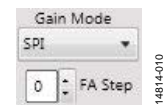
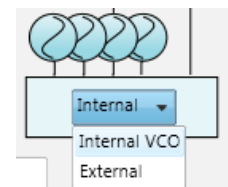

Figure 10. Gain Mode Dropdown Menu and FA Step Spin Box
Figure 11. Configuration Dropdown Menu
- Spin boxes, check boxes, and dropdown menus allow users to select predefined values. These elements do not start a register write operation and users must click the **PLL Set** button to produce the PLL/VCO related register writes and **Apply Changes** button all other controls. Figure 10 shows an example of a spin box. Figure 11 shows a dropdown menu item to select between the internal VCO and external LO configurations.